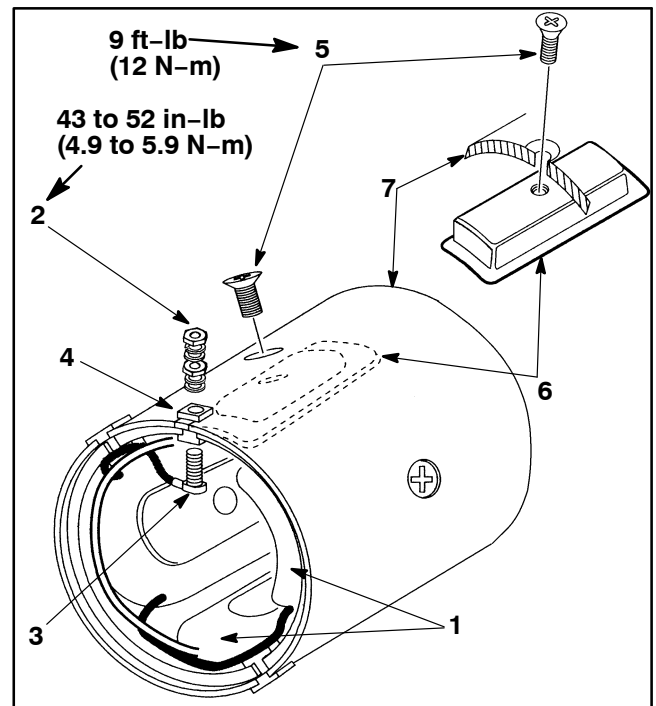

Figure 32
9. Inspect field coils (Fig. 32).
10. To remove field coils (Fig. 32):
B. Remove four (4) pole piece screws and pole sets from the yoke. Remove field coils from the yoke.
A. Position field coil into yoke. Make sure both insulators that look similar go into the slots marked F1 and F2. The different looking insulator goes into the slot marked DF. Seat insulators into slots (Fig. 32).
B. Install terminals through wire connectors and insulators. Secure flat washer, lock washer and nut onto each terminal. Torque nuts from **43 to 52 in-lb (4.9 to 5.9 N-m)** (Fig. 32).
C. Position all four (4) pole pieces into the yoke. Secure pole pieces with set screws. Torque screws to **9 ft-lb (12 N-m)** (Fig. 32).